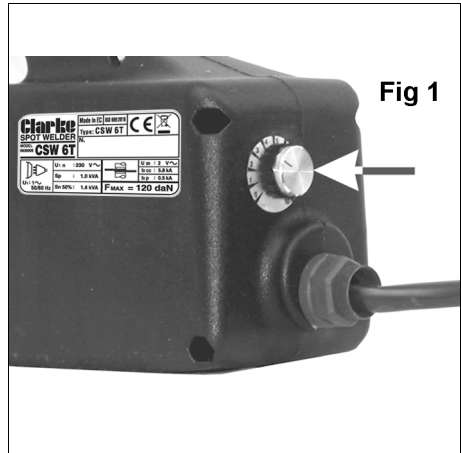
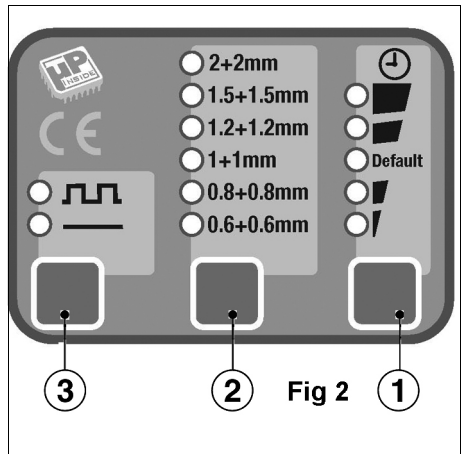

Fig 1
Fig 2
This 230V 50Hz, portable Spot Welder is provided with an electronic timer which allows precise control of welding time. The control knob is arrowed in Fig 1. Electrode pressure may be mechanically adjusted from 40 to 120kg, to spot weld low carbon sheet steel up to 1 + 1 mm in thickness.
The most important features of this 230V 50Hz Portable Spot Welder are controlled by a microprocessor, managed from the control panel shown in Fig. 2. These features are:
8. Set the welding time by either turning the dial adjuster, shown in Fig 1, (model 6T), or pressing the button shown at 1 Fig 2 (model 13T). Generally the thicker the workpiece, the longer the welding time.
1. Select the welding mode....normal or pulse, by pressing the appropriate button on the control panel accordingly. (Button 3, Fig 2)
2. Select the welding thickness by pressing the appropriate button on the control panel accordingly. (Button 2, Fig 2)